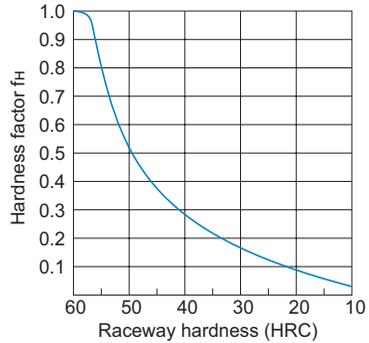

Fig.1 Hardness Factor (fH)
- C : Basic dynamic load rating (N)
- P : Applied load (N)
- fH : Hardness factor (see Fig.1 on A-11)